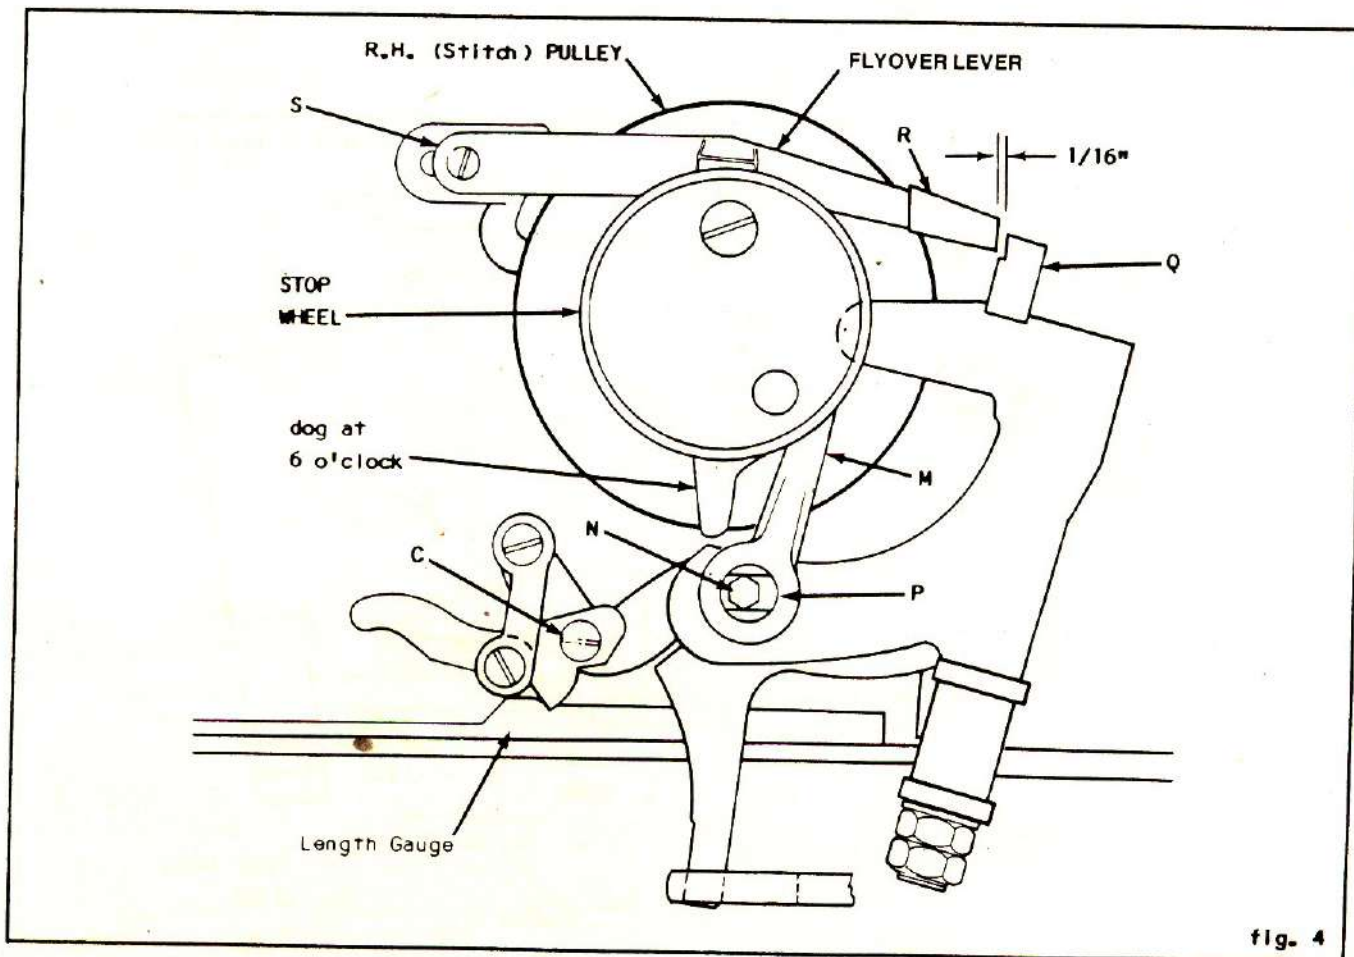
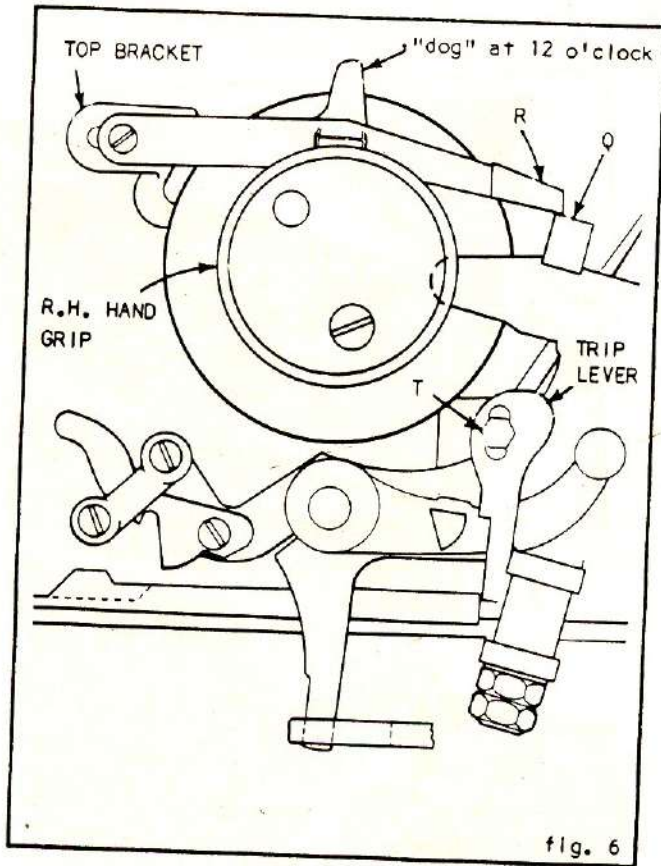
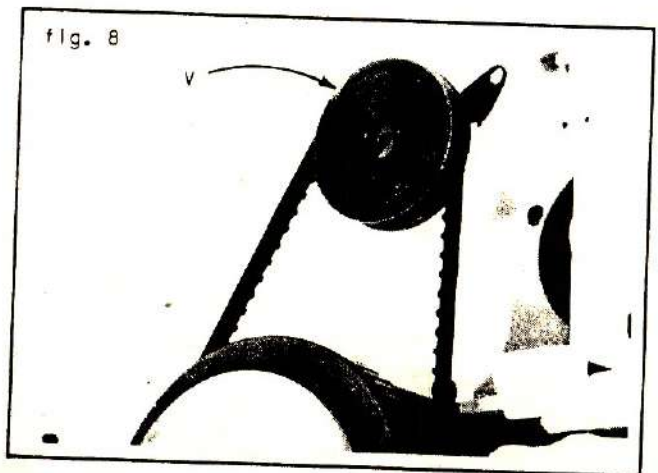

fig. 4
fig. 6
fig. 8
5. Adjust eccentric latch (M) so that R.H. (stitch) pulley is freewheeling. Loosen screw (N, fig. 4) and rotate eccentric (P) so that its wide side is towards the rear of machine and eccentric latch (M) is against the ledge of stop wheel holding clutch dog approximately one-half way between the drive cam and the inside diameter of R.H. (stitch) pulley. Retighten screw (L, fig. 3).
6. Crank machine until roll (C, fig. 4) reaches the high point of length gauge. Turn R.H. (stitch) wheel until dog is at 6 o'clock as shown. At this point, there should be $1/16"$ clearance between dog (Q) and the end of flyover lever (R). To adjust, loosen screw (S) and move flyover lever front or back as necessary. Retighten screw (S).
8. Turn R.H. (stitch) wheel until dog is at twelve o'clock and releases trip lever (see fig. 6). At this point, dog (Q) should just touch underside of flyover lever (R) without lifting it. To adjust, loosen top bracket and move up or down to suit. Tighten the three screws that hold top bracket to machine head.
10. To adjust for simultaneous release of L.H. and R.H. dogs, with power off, depress starting lever (see fig. 1) to engage L.H. dog. While applying slight counter-clockwise pressure on R.H. hand grip (fig. 6), cycle machine back by turning pulley (V, fig. 8) counter-clockwise by hand. As roll (C, fig. 4) begins to ascend high point of length gauge, R.H. dog should release at same time or after L.H. dog releases and before L.H. dog separates .016".